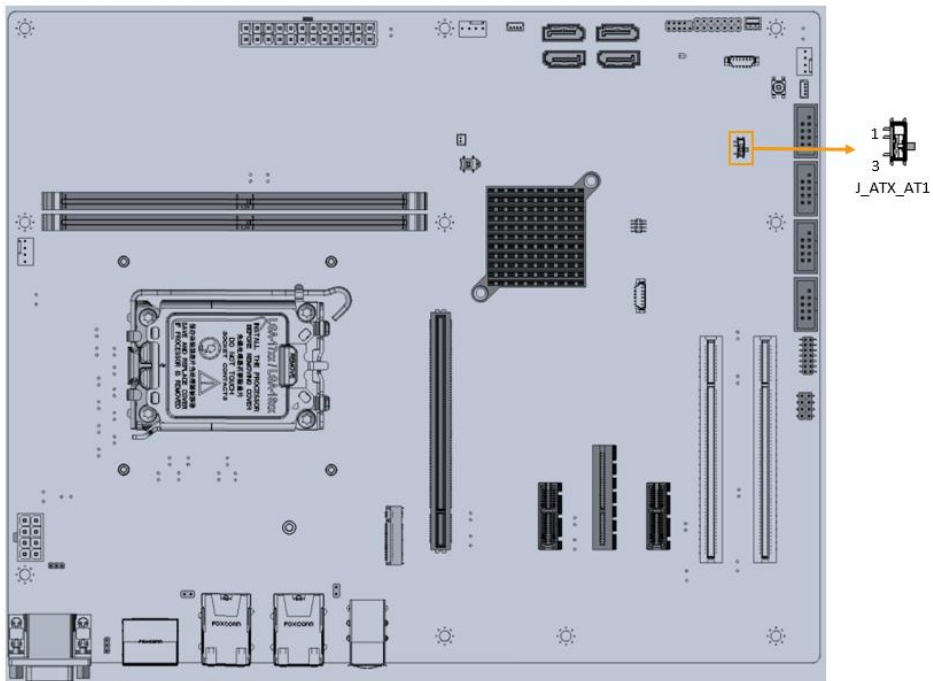

Figure 3-3: AT/ATX Power Mode Switch Locations
- CN Location:** See Figure 3-3